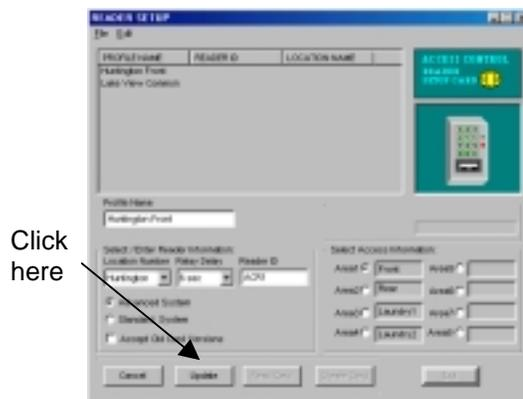

Figure 11.35 Saving the Reader Setup Profile Changes
4. Verify that the new information is accurate and click the Update button to save the changes (Figure 11.35).